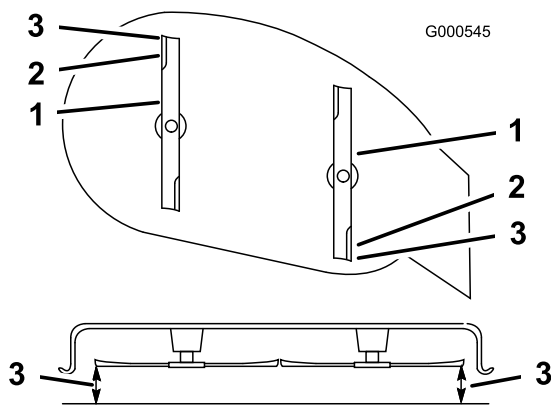

Figure 38
6. Measure from the top of the front blade to the flat surface and the tip of the rear blade to the flat surface (Figure 38). If the front blade tip is not 0 to 1/4 inch (0 to 6 mm) lower than the rear blade tip, adjust the front locknut.
Note: Continue adjusting the nut until the front blade tip is 0 to 1/4 inch (0 to 6 mm) lower than the rear blade tip (Figure 38).